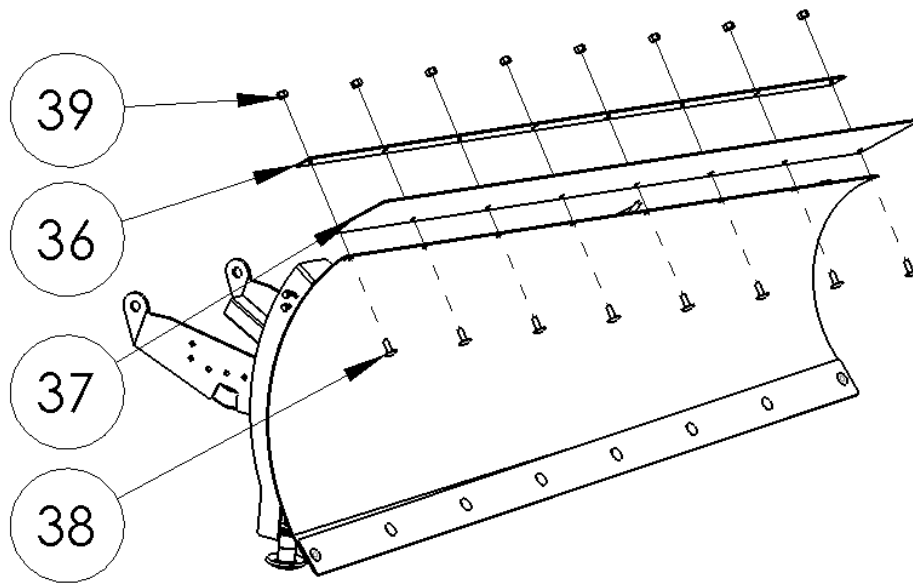

Figure 10
- 8) Install the Rubber Flap (#37) and Hold Down Bar (#36) using the 3/8" Carriage Bolts (#10) and Nylock Nuts (#13) included in your kit **(Figure 10)**